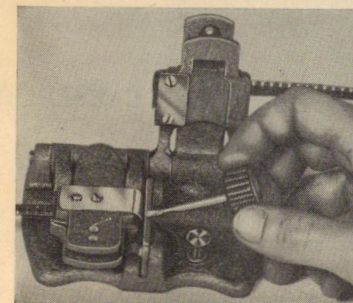
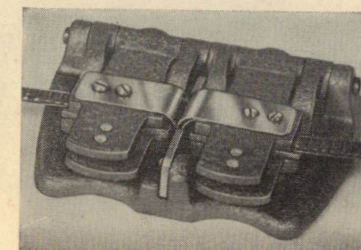

Fig. 16
Fig. 17
7. Apply film cement to scraped film surface (see Fig. 16) and bring down right clamp with film over the cemented portion and leave clamped for at least one minute (see Fig. 17), lift all clamps and remove film from registration pins slowly and carefully and the splice is now complete.